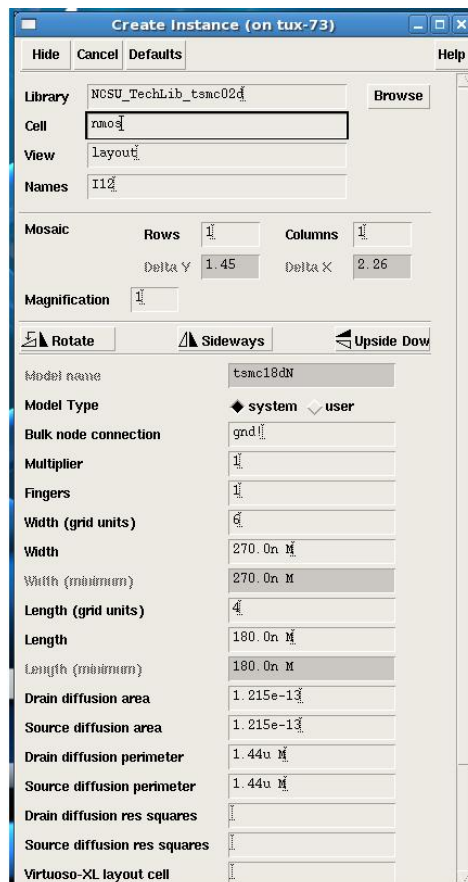

Fig. 5. Create Instance Window
- The create instance window will now appear as shown in Fig. 5.